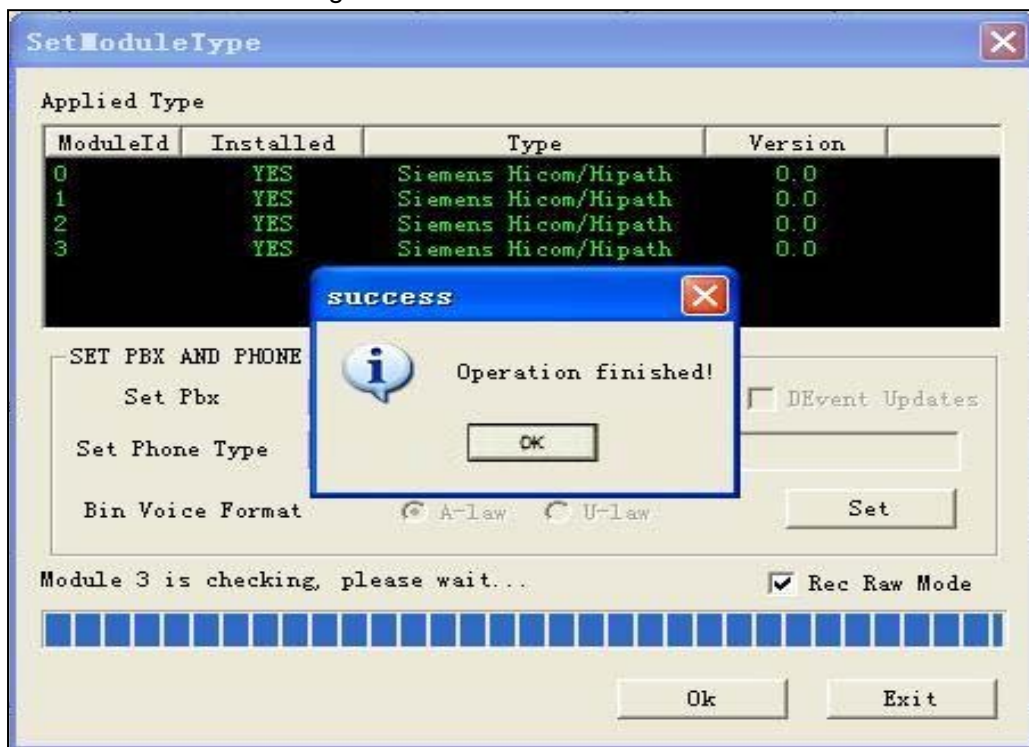

Figure 3-7 For A-type Boards
Step 6 : Once a module setting is done, the dialog 'success' pops up. Click the button 'OK' as shown in Figure 3-7.